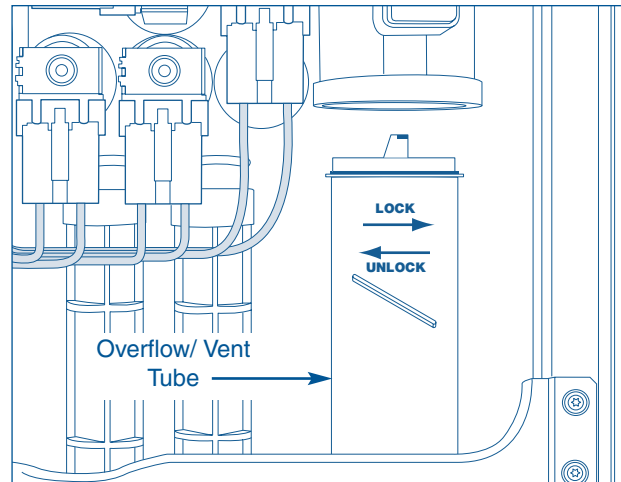

Figure 4-31.
3. Turn the tube counter clockwise about a 1/16 of a turn to unlock the tube. Then pull the tube back to disengage it from the detergent dispenser housing. (See Figure 4-31)